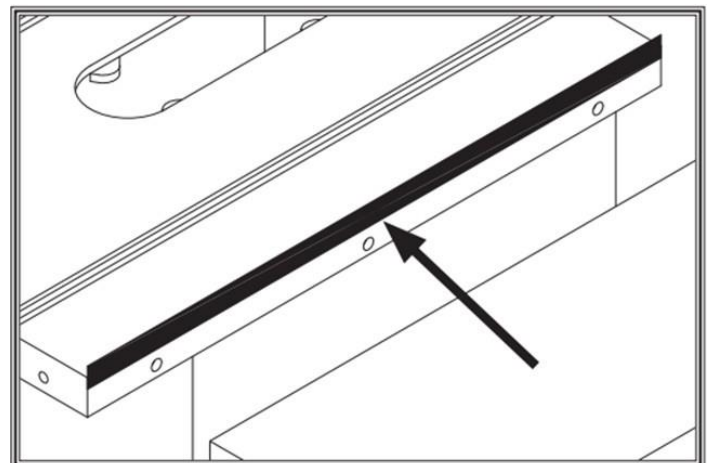

Figure 15: Shim location for lowering the wing down.
- If the wing's end is pointing up, remove the wing and place a strip of masking tape along the top edge of the main table to create a shim, reinstall the wing (see figure 15).